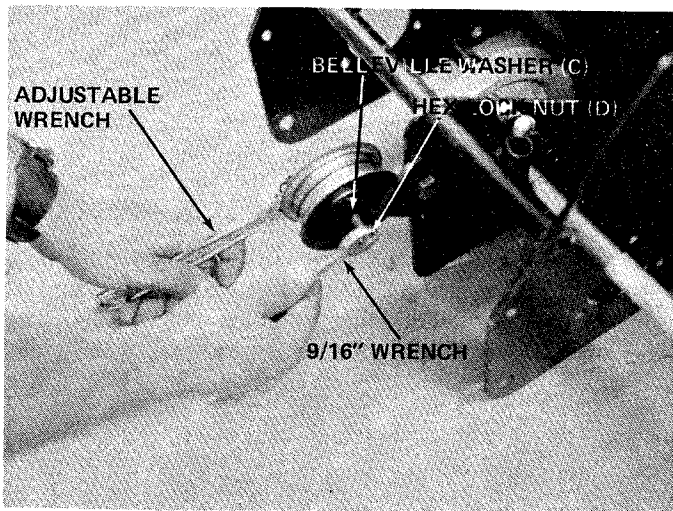

FIGURE 7
- Secure idler pulley (A) and hex bolt (B) to idler bracket with belleville washer (C) and hex lock nut (D). An adjustable wrench and a 9/16" wrench is required. See figure 7. **Tighten securely.**